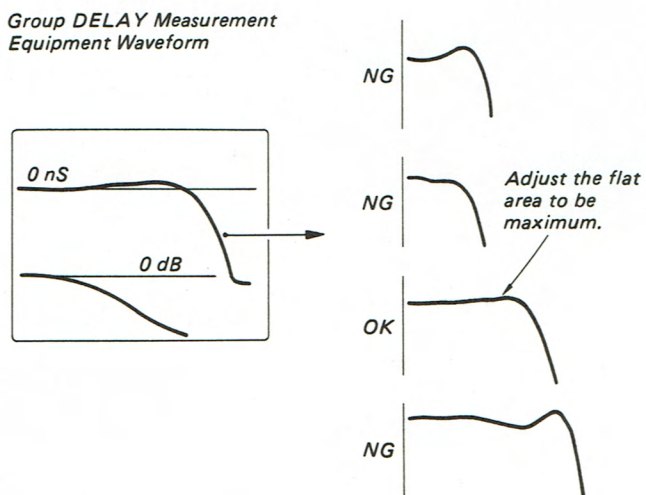

Fig. 18-2.
3. Adjust the group DELAY characteristic of the B-Y L.P. filter so that the flat area is maximum by turning L4 and L5 on the BE board. (See Fig. 18-2.)